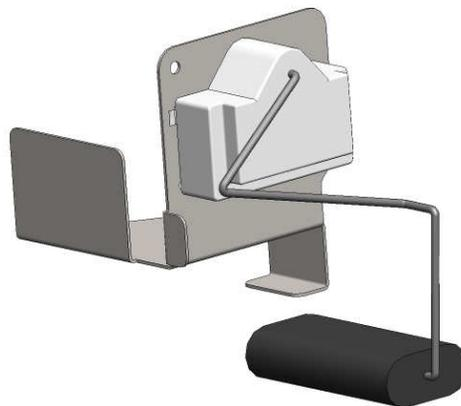

Figure 1-1
- 6 From the old OEM fuel tank, remove the filler neck rubber grommet, fuel level sender, vent and vent grommet, and wiring harness. Inspect all parts for damage, if none found, reinstall in new Aeromotive tank. If any of the OEM components are damaged replacement parts are available through your local Ford dealer or auto parts store. Use **figure 1-1** to install the factory fuel level sensor on to the provided fuel level bracket.